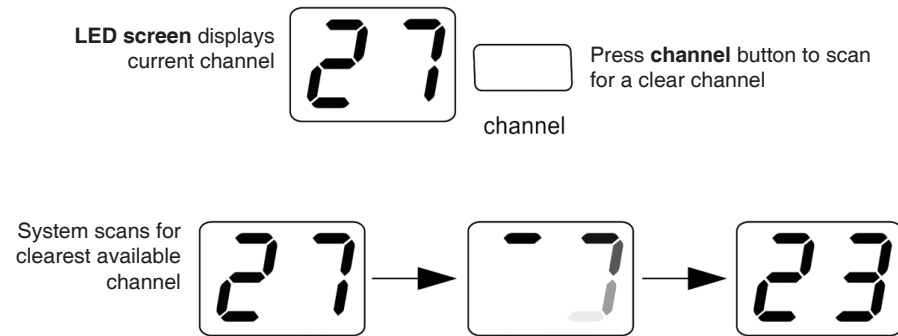

FIG. 6
- 1 Press and release the **channel** button. (FIG. 6)